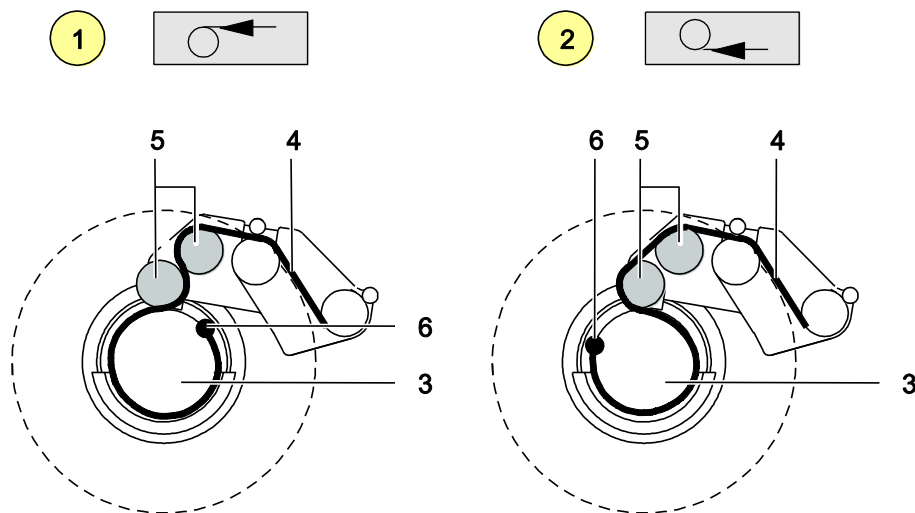

Fig. 6- 8 Threading the film through the pivot arm
- Set the direction of rotation for the winder on the screen page "Parameters" (see Fig. 6- 10).